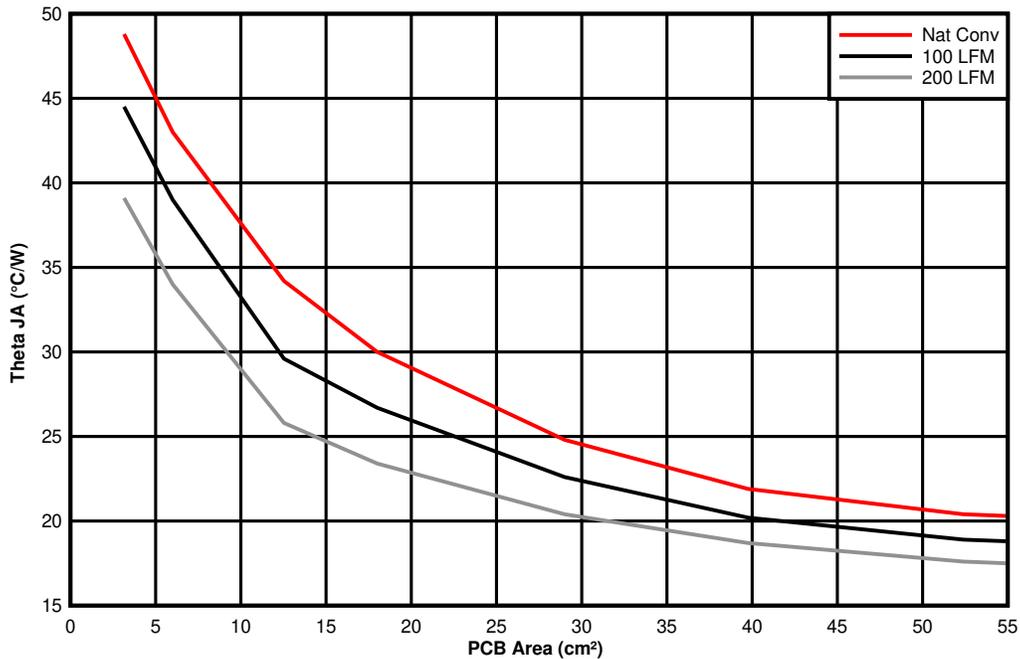

Figure 11-5. θ_{JA} vs PCB Area
The amount of PCB copper as well as airflow effects the thermal performance of the device. Figure 11-5 shows the effects of copper area and airflow on the junction-to-ambient thermal resistance ($R_{\theta JA}$) of the TPSM5601R5. The junction-to-ambient thermal resistance versus PCB area is plotted for a 4-layer PCB.
3. Reference Figure 11-5 to determine the minimum required PCB area for the application conditions.